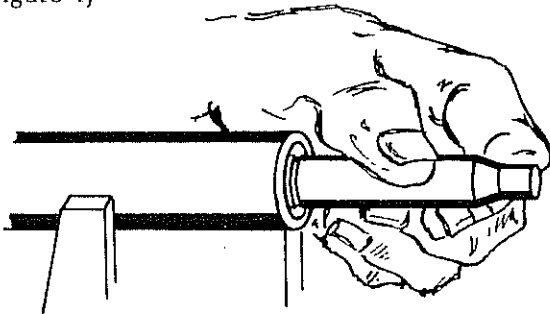

FIGURE 4
- 2 With your left hand insert the base of the case into the Collet as far as it will go and hold it there. (Figure 4)